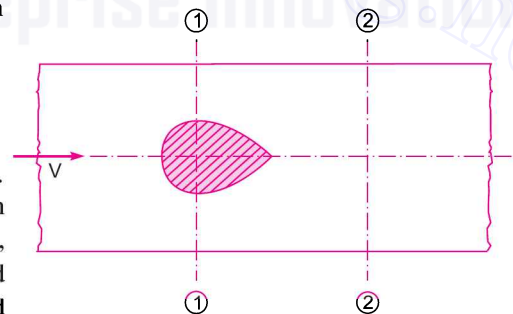

Fig. 11.3 (a) An obstruction in a pipe.
**11.4.5 Loss of Head Due to an Obstruction in a Pipe.** Whenever there is an obstruction in a pipe, the loss of energy takes place due to reduction of the area of the cross-section of the pipe at the place where obstruction is present. There is a sudden enlargement of the area of flow beyond the obstruction due to which loss of head takes place as shown in Fig. 11.3 (a)
Consider a pipe of area of cross-section  $A$  having an obstruction as shown in Fig. 11.3 (a).